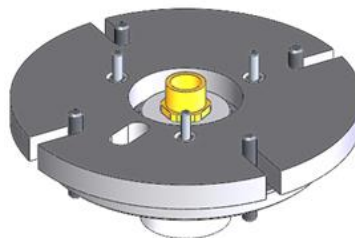

Figure 27: Fixing Plate installed
- Place the Fixing Plate over the Mounting Studs on top of the mixer allowing the grease nipple to protrude through the slot provided (Figure 27).